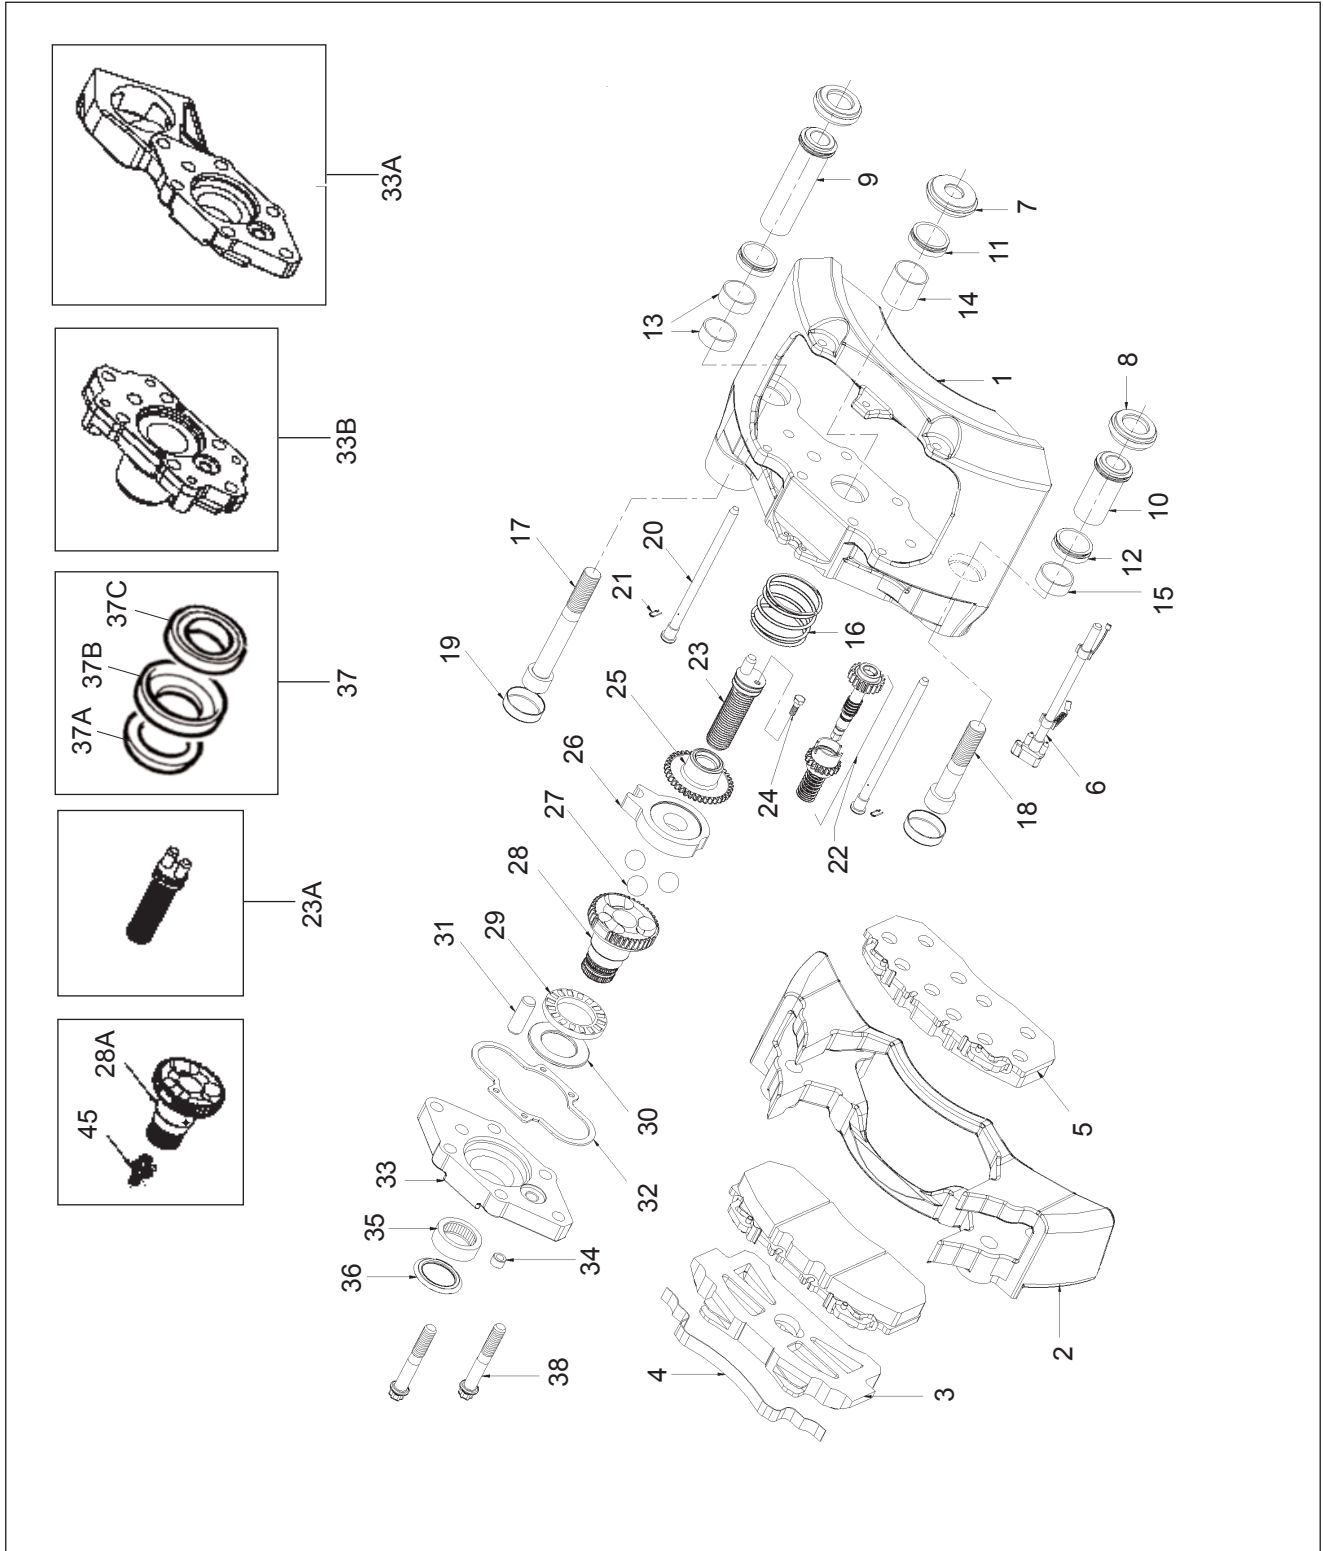
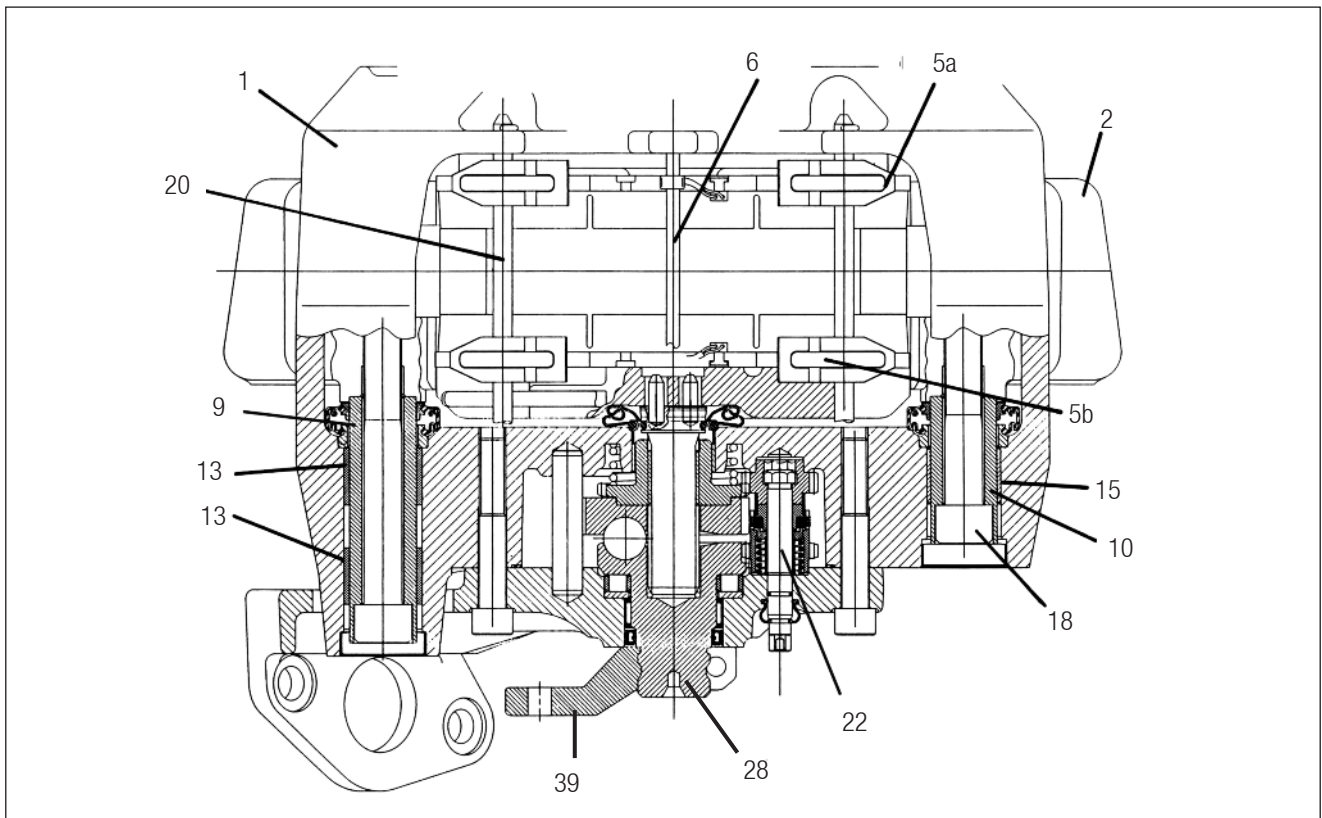
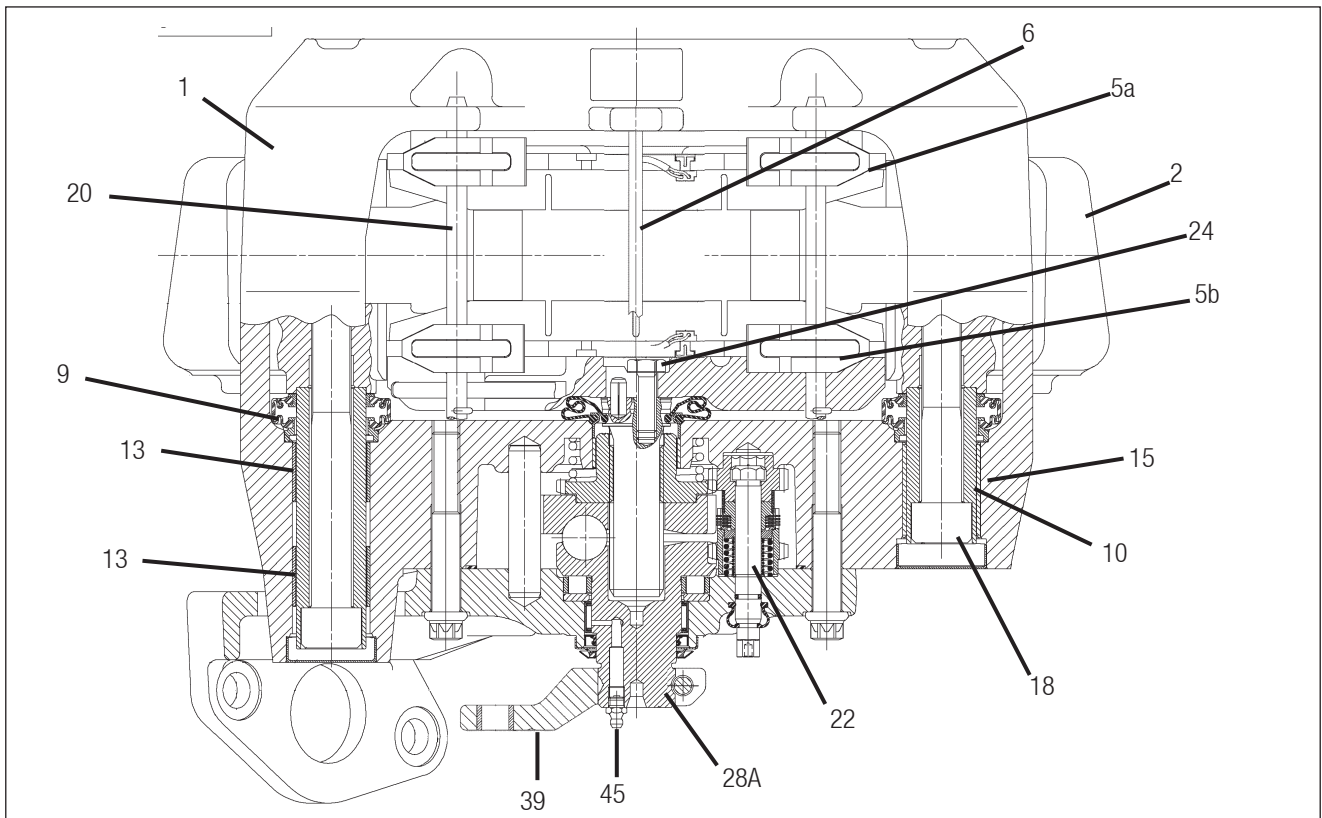

Fig. 1.1
Fig. 1.2a
Fig. 1.2b
The air actuated disc brake (Fig 1.1) has been designed for vehicles in the 12 - 19 ton range. The brake, detailed in the section views (Fig 1.2a & Fig 1.2b) can be fitted to either front or rear axles and can be used for vehicle parking when a service/spring brake chamber is fitted.
The air chamber/actuator is attached to the brake body (1) and connected by a lever (39) to the brake operating shaft (28). The carrier (2) is secured to the vehicle and straddles the rotor. The body assembly (1) slides on two fully sealed guide pins (9 & 10) screwed to the carrier (Fig 1.2a & Fig 1.2b) and the brake pads (5) are supported on the pad retaining pins (20). As the pads wear adjustment takes place automatically by an integral load insensitive adjusting mechanism (22).